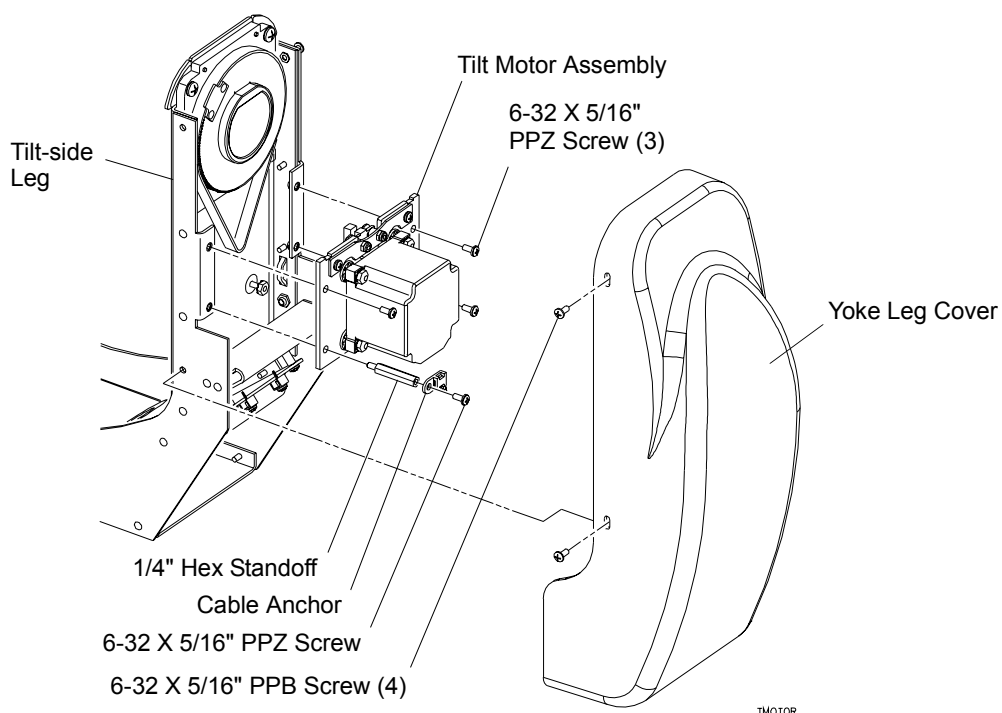

Figure 2-18: Tilt Motor Assembly Replacement
Step 2. At tilt-side leg, remove yoke leg cover by removing four 6-32 X 5/16" PPB screws (Figure 2-18). To find tilt-side leg, refer to page 9.